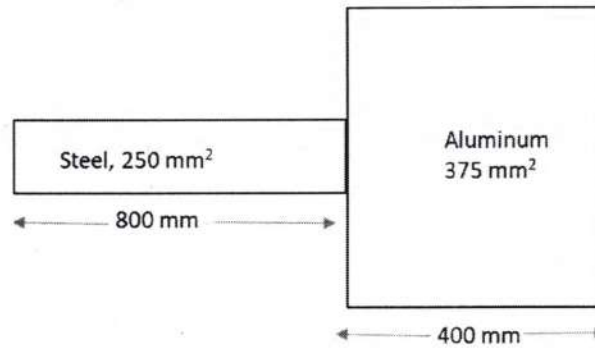

Figure 7
7. The composite bar consisting of steel and aluminum component as shown in figure 7 is connected to two grips at the ends at a temperature of  $60^{\circ}\text{C}$ . Find the stresses in the two rods when the temperature falls to  $20^{\circ}\text{C}$ . (a) if the ends do not yield and (b) if the ends yield by 0.25 mm. [7]